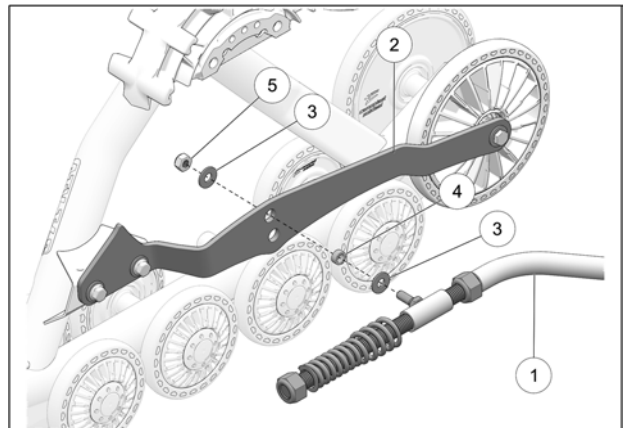

Fig. 8
7. Attach the rear stabilizing rod (1) to the undercarriage bracket (2) using washers (3), a bushing (4) and a nut (5). Choose the hole that does not create interference between the nylon lock nut (5) and the plastic drive sprocket. See Fig. 8